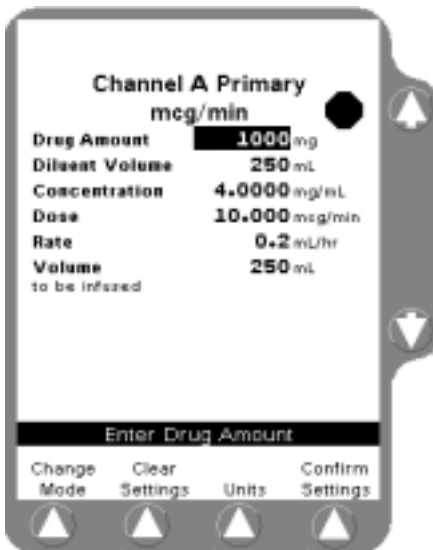

Figure 5-7 Clear Old Settings
4. Press the **Select** soft key to display the Dose Programming screen (Figure 5-7).
**Note:** Any dose parameters retained in program memory are displayed. To clear the parameters, press the **Clear Settings** soft key (Figure 5-7).